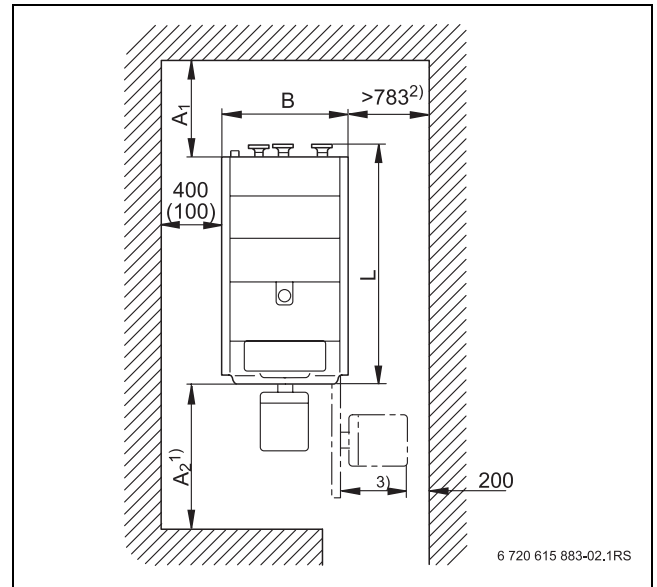

Fig. 2 Boiler room (for dimensions see Tab. 4), dimensions in mm
- ▶ When providing foundations or a support area, observe the specified minimum wall clearances (values in brackets) (→ Fig. 2 and Tab. 4) so that the installation and maintenance instructions can be followed without difficulty. The front edge of the boiler should be flush with the edge of the plinth.
If you wish to fix the control unit to the side of the boiler using the holder (accessory), you have to ensure additional clearance (→ Fig. 2, page 11).